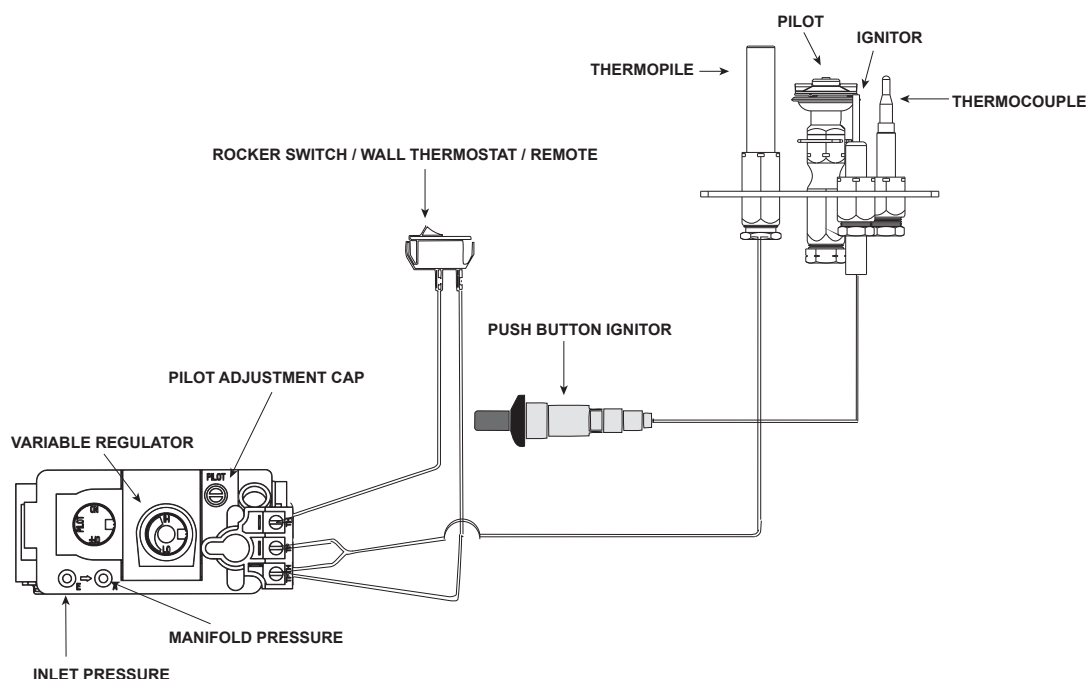

Figure 10.1 Standing Pilot Ignition Wiring Diagram
- If desired an additional wall switch, thermostat, or remote control may be added to system as shown in Figure 10.1).